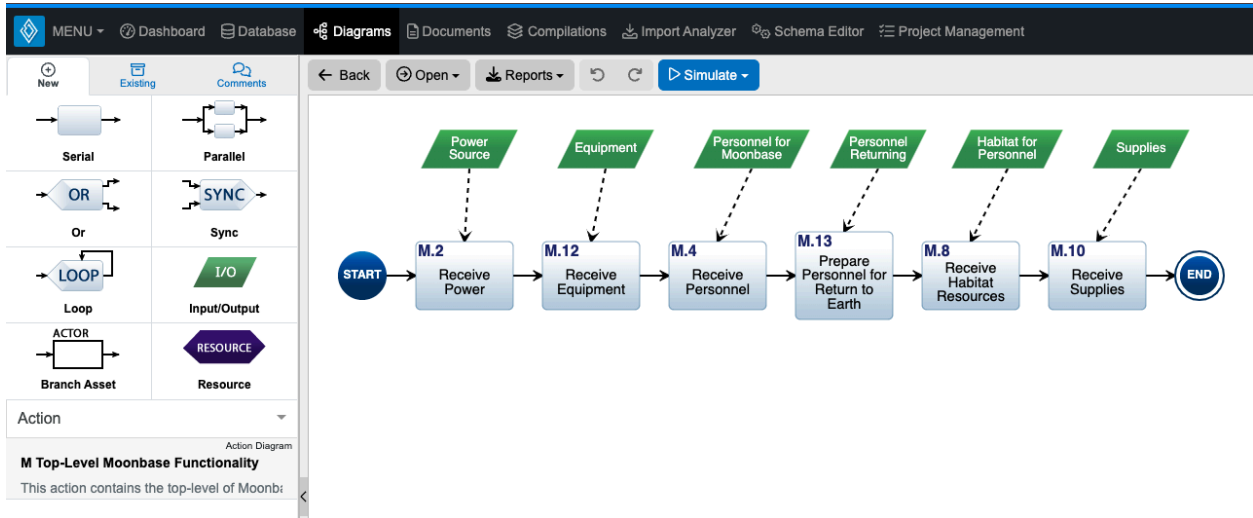

Figure 21. Top-Level Action Diagram
6. Renumber the action entities and manually create the Input/Output elements to replicate Figure 21 below.